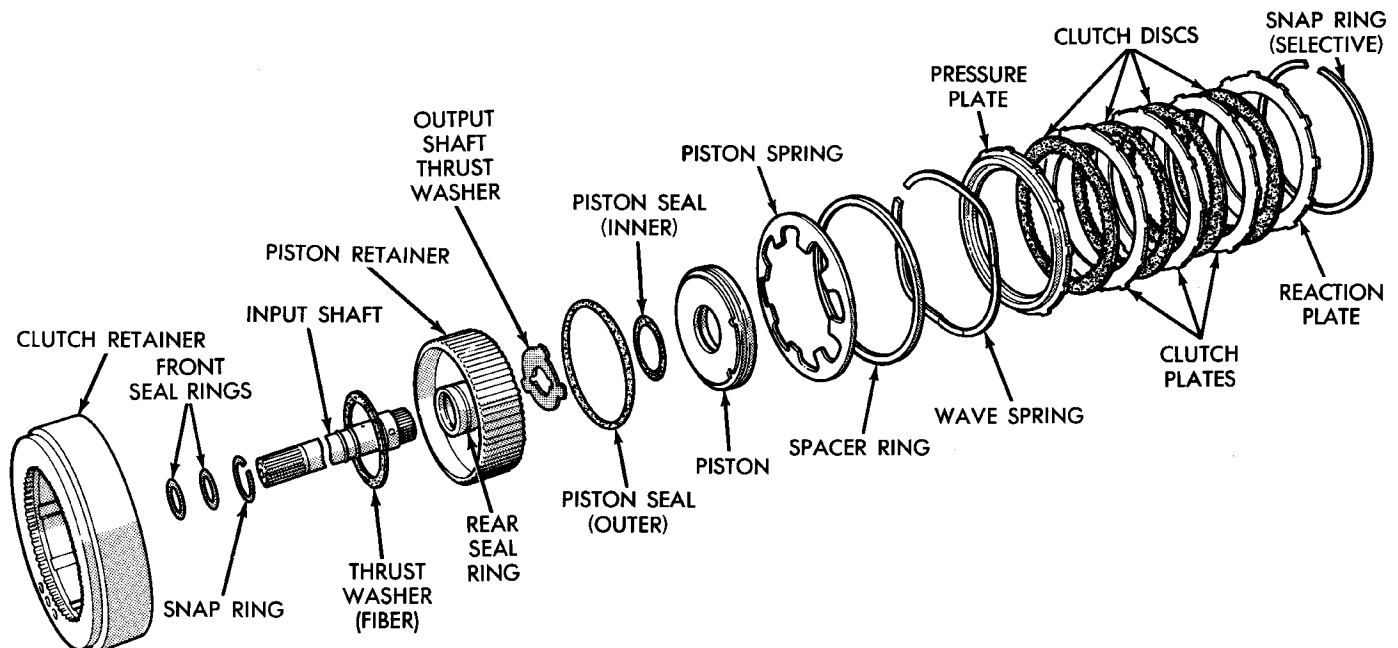

Fig. 170 Rear Clutch Components
(1) Remove clutch pack select fit snap ring.
(2) Remove reaction plate and remove clutch plates and discs (Fig. 170).
(7) Assemble piston retainer and clutch retainer.
(8) Support clutch retainer with wood blocks, or insert input shaft through pre-drilled hole in work-bench. Clutch pack components are easier to install if retainers are properly supported.
(9) Install piston spring in clutch retainer. Concave side of spring faces upward and away from clutch piston.
(10) Install spacer ring on top of piston spring.
(11) Install wave spring on top of spacer ring. Then seat wave spring in retainer groove. **If wave spring will not seat properly, spacer ring has probably shifted over and into wave spring groove in retainer. Use small screwdriver to realign spacer ring if necessary.**
(12) Install inner pressure plate in clutch retainer.
(13) Install first clutch disc followed by steel plate until all discs and plates are installed. 4 clutch discs and steel plates are required (Fig. 170).
(14) Install reaction plate on top of last clutch disc.
(15) Install selective snap ring to secure clutch pack in retainer.